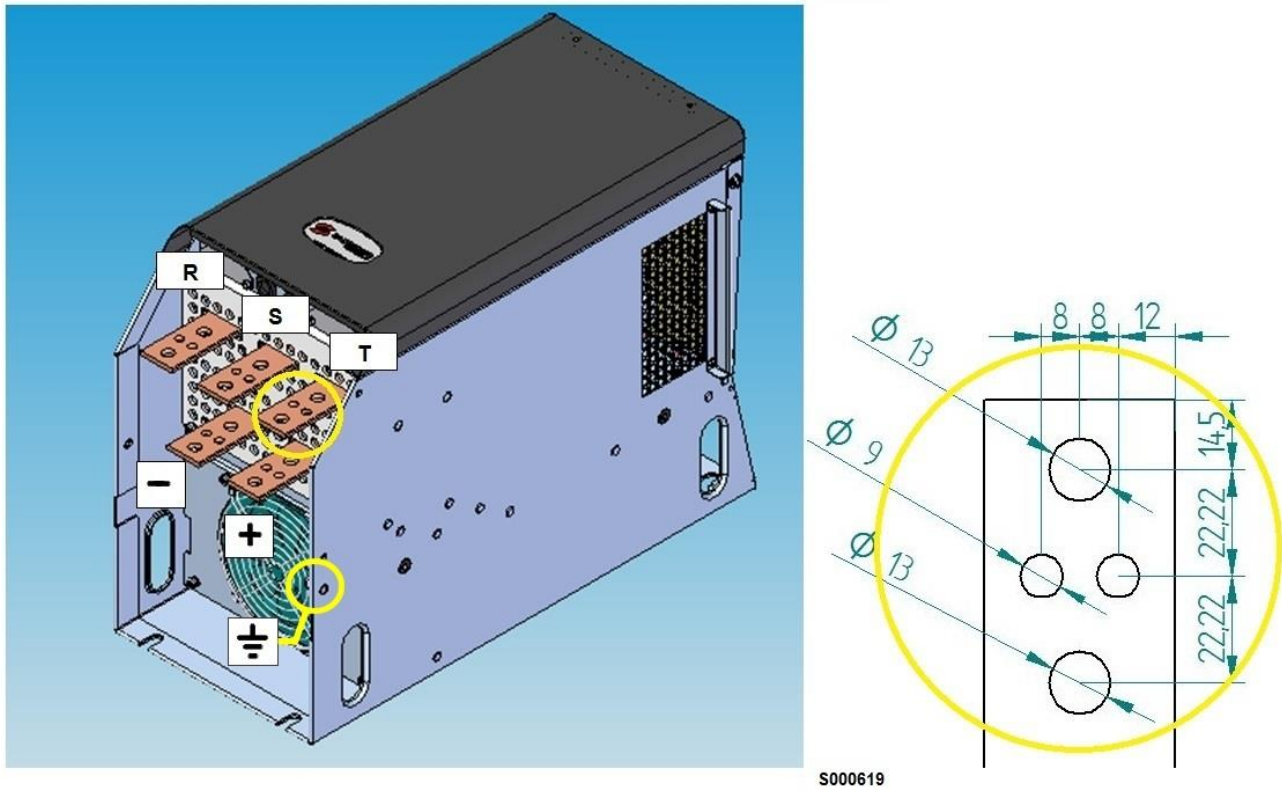
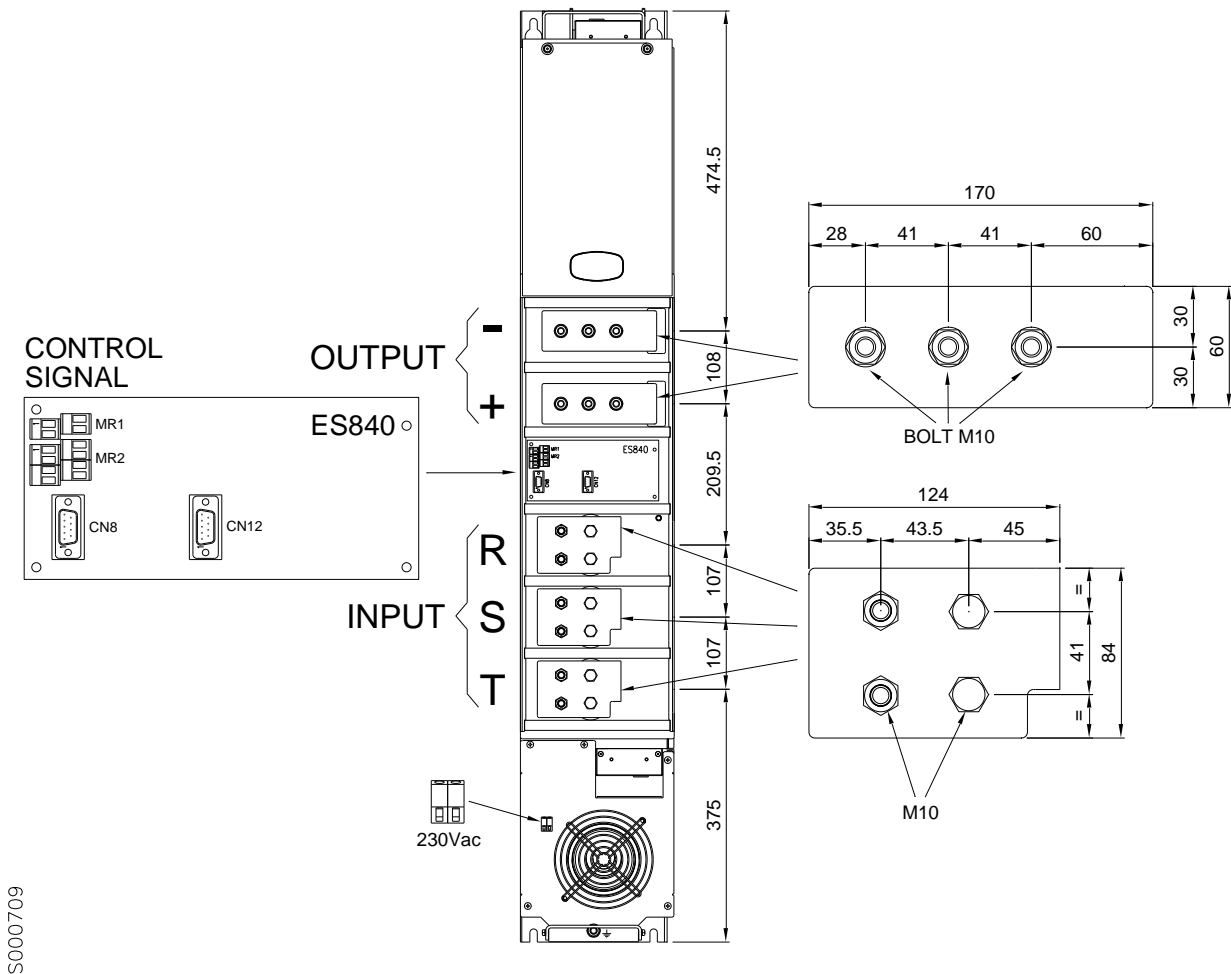

Figure 16: Power terminals for the AC/DC UNIT 465
Figure 17: Power terminals for the AC/DC UNIT 1050
Figure 16 and Figure 17 show the power terminals layout for the AC/DC UNITS.
- directly the ES840 board of the AC/DC UNIT 1050 (see Figure 17), marked as CN8 and CN12